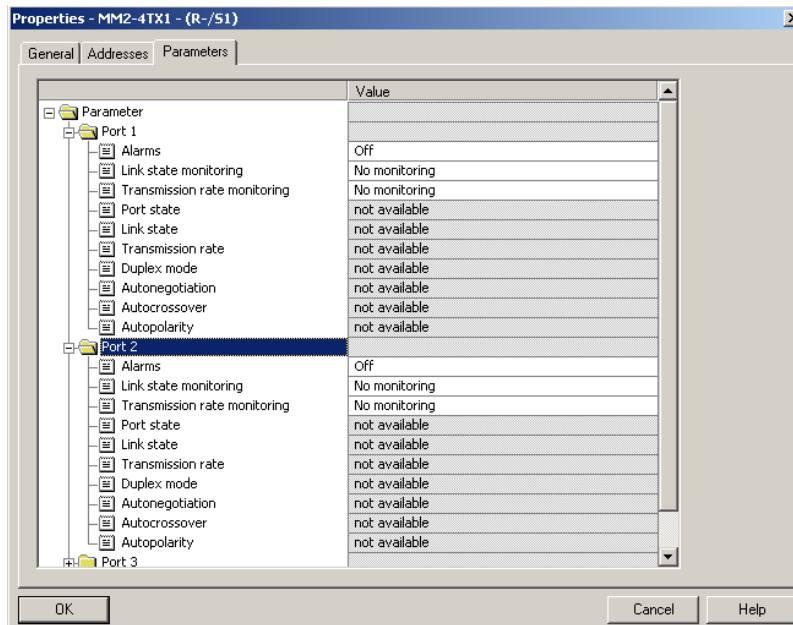

Figure 13: Port Properties
- Select the desired alarms and close the window (see fig. 13).